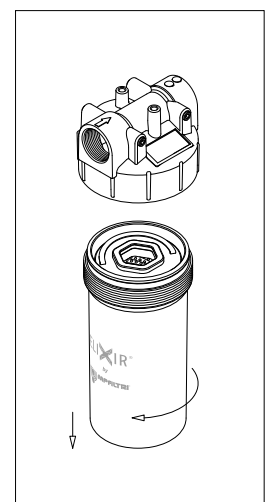

fig. 1
- (Fig. 1) Unscrew the filter bowl after placing a vessel to collect the operating fluid